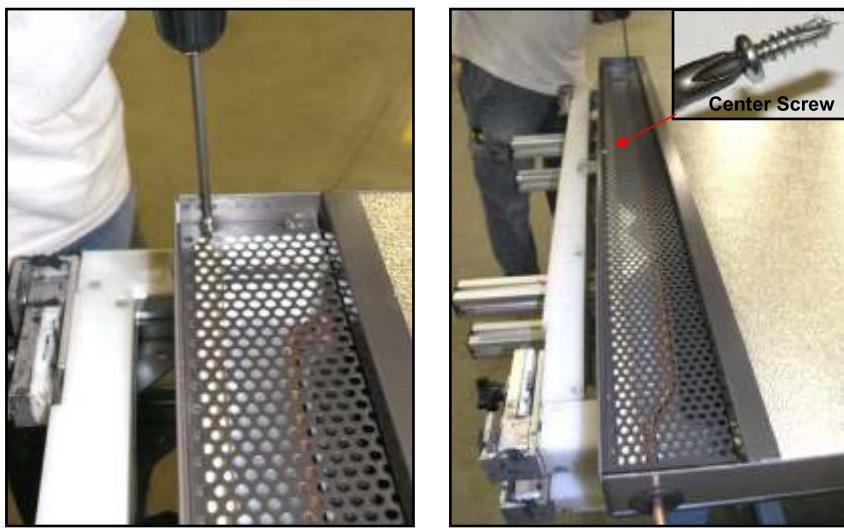

Fig. 6.1.2 – Swapping stagnation-control device and grill – unscrewing intake grill.
1. Remove and set aside five screws that hold grill in place at bottom of collector (Fig. 6.1.2). Center screw is self-drilling and different from others (see insert in Fig. 6.1.2). Carefully remove grill by first lifting perforated section and then by gently pulling grill away from aluminum-covered back insulation.